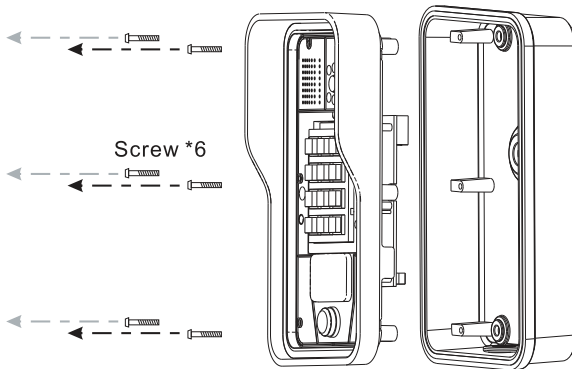

Figure 5
B. With Phillips screwdriver, unpack the rain shade and the main part of intercom as shown in Figure 5.